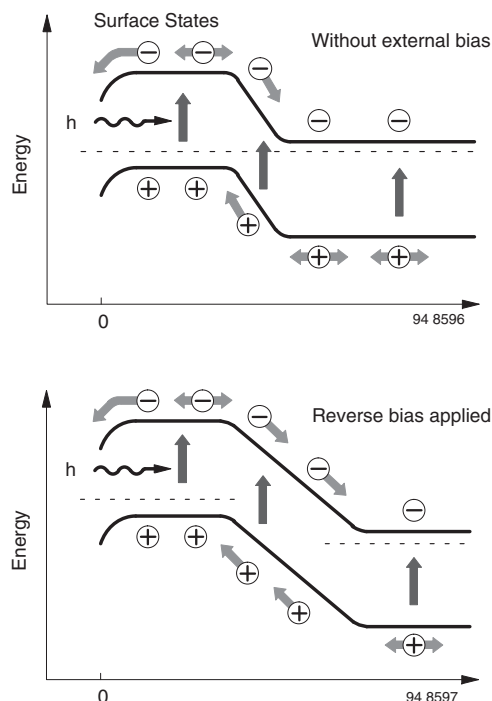

Fig. 9 - Generation-Recombination Effects in the Vicinity of a PN Junction
Depending on the wavelength, the penetration depth varies from tenths of a micron at 400 nm (blue) to more than 100 μm at 1 μm (IR). For detectors to be effective, an interaction length of at least twice the penetration depth should be realized (equivalent to $1/e^2 = 86\%$ absorbed radiation). In the pn diode, generated carriers are collected by the electrical field of the pn junction. Effects in the vicinity of a pn junction are shown in figure 9 for various types and
operating modes of the pn diode. Incident radiation generates mobile minority carriers - electrons on the p-side, holes on the n-side. In the short circuit mode shown in figure 9 (top), the carriers drift under the field of the built-in potential of the pn junction. Other carriers diffuse inside the field-free semiconductor along a concentration gradient, which results in an electrical current through the applied load, or without load, in an external voltage, open circuit voltage, V_{OC} , at contact terminals. Bending of the energy bands near the surface is caused by surface states. An equilibrium is established between generation, recombination of carriers, and current flow through the load.